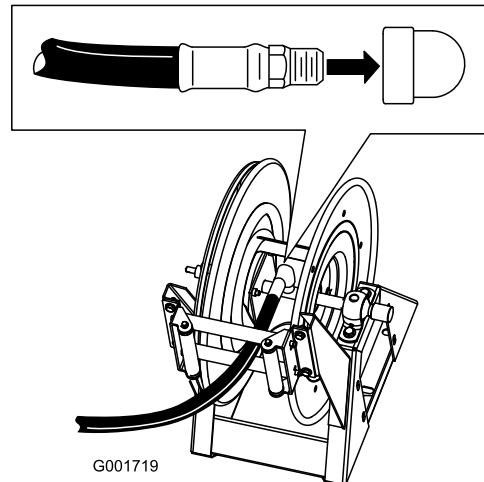

Figure 19
1. Wrap Teflon tape around the threads of the hose fitting on the long hose and install the fitting into the connecting tube on the reel (Figure 19).